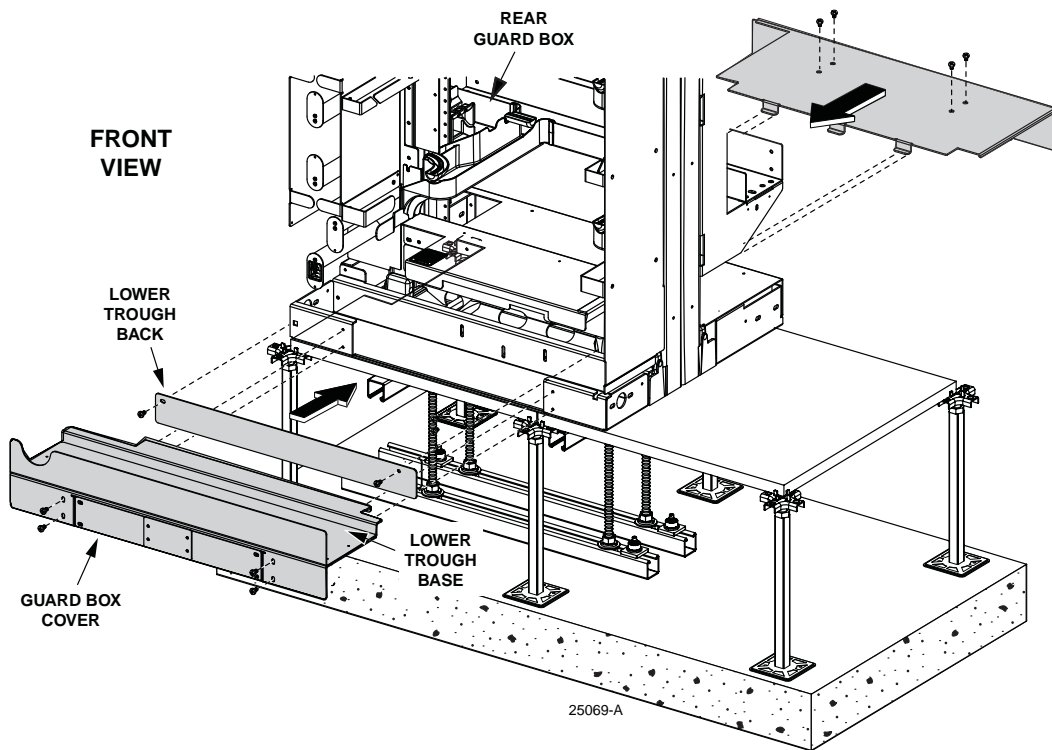

Figure 26. Re-installing Troughs
26. Re-install front and rear trough as shown in Figure 26.
1. If the front trough covers, front guard box, and the rear guard box, are present on the frame, remove them. Figure 26 above shows the same components, but being installed.
10. Re-install the front and rear troughs, as shown in Figure 26 on Page 30.